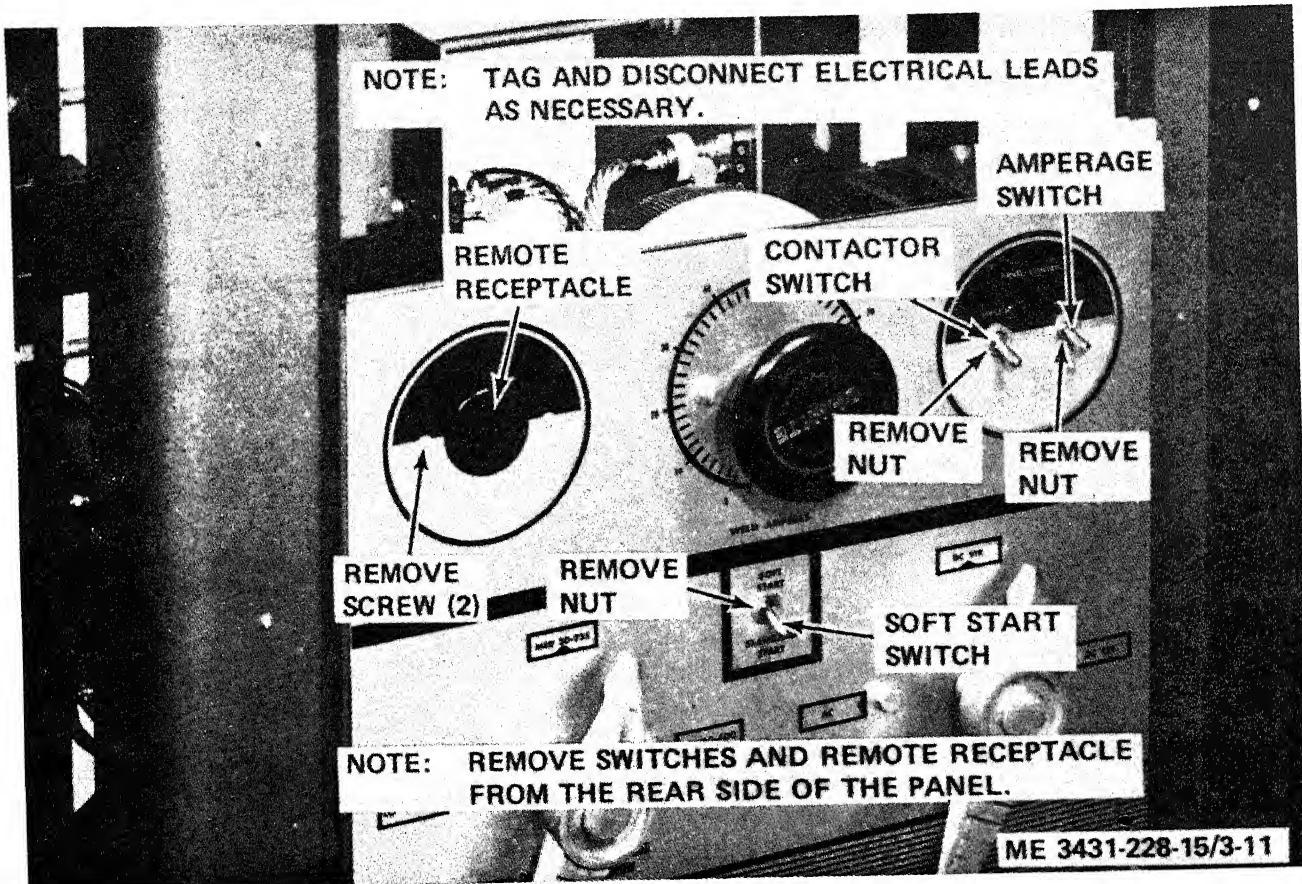

Figure 3-11. Remote receptacle, amperage switch, and contactor switch, removal and installation.
- (1) Disconnect ac power from the welding machine.
- (2) Remove the timer and high frequency drawer (para 3-19).
- (3) Refer to figure 3-11 and remove the remote
- (1) Refer to figure 3-11 and install the remote receptacle.
- (2) Install the timer and high frequency drawer (para 3-19).
(1) Disconnect ac power from the welding machine.
(2) Remove the timer and high frequency drawer (para 3-19).
(3) Refer to figure 3-11 and remove the switch.
(1) Refer to figure 3-11 and install the switch.
(2) Install the timer and high frequency drawer (para 3-19).